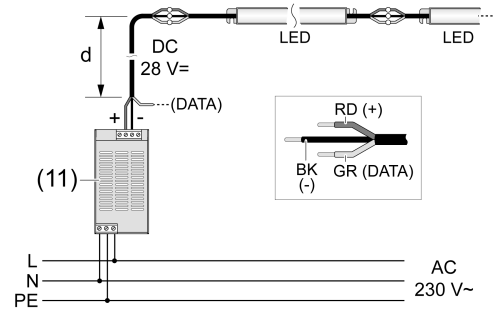

Figure 5: Circuit diagram
- Connect the LED luminaires according to the circuit diagram (Figure 5).